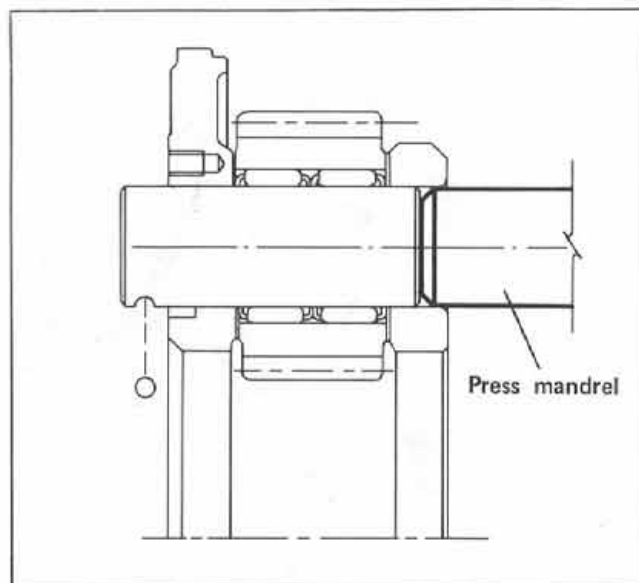

Figure 7, Illustration 1
A. Press out planetary gear pin toward outer flange. (see figure 7) Be sure to catch ball lock as pin emerges.